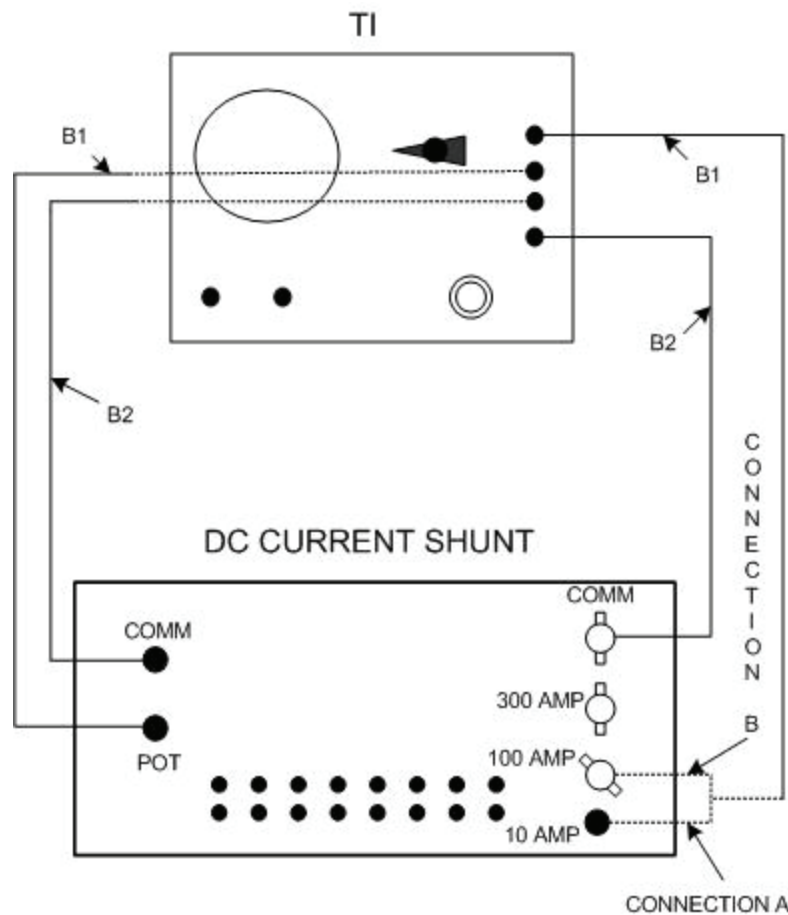

Figure 2. High resistance - equipment setup.
- (12) Adjust **ADJUST** control fully ccw.
- (13) Set **ON-OFF** switch to **OFF**.
- (14) Connect equipment as shown in figure 2, connection A.
- (15) Set **OHMS FULL SCALE** switch to **0.01**.
- (16) Place dc current shunt plugs in to **10 AMPERES** position.
- (17) Set **ON-OFF** switch to **ON**.
- (18) Adjust **ADJUST** control for a 4.5 indication on TI OHMS meter 0 to 5 scale.
- (19) Press and hold **TEST** pushbutton. TI OHMS meter will indicate between 4.25 and 4.75 on 0 to 5 scale. Release **TEST** pushbutton.
- (20) Adjust **ADJUST** control fully ccw.
- (21) Set **ON-OFF** switch to **OFF**.
- (22) Connect equipment as shown in figure 2, connection B.
- (23) Set **OHMS FULL SCALE** switch to **0.005**.
- (24) Place dc current shunt plugs in **100 AMPERES** position.
- (25) Set **ON-OFF** switch to **ON**.
- (26) Adjust **ADJUST** control for a full-scale indication on TI meter 0 to 5 scale.
(27) Press and hold **TEST** pushbutton TI OHMS meter will indicate between 0.75 and 1.25 on 0 to 5 scale. Release **TEST** pushbutton.